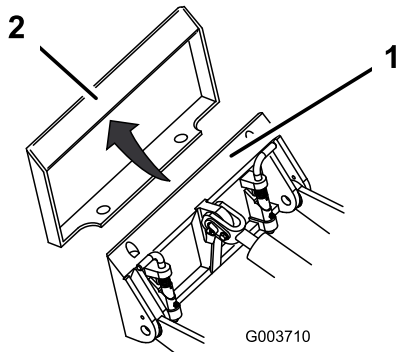

Figure 19
4. Position mount plate into the upper lip of the attachment receiver plate (Figure 19).